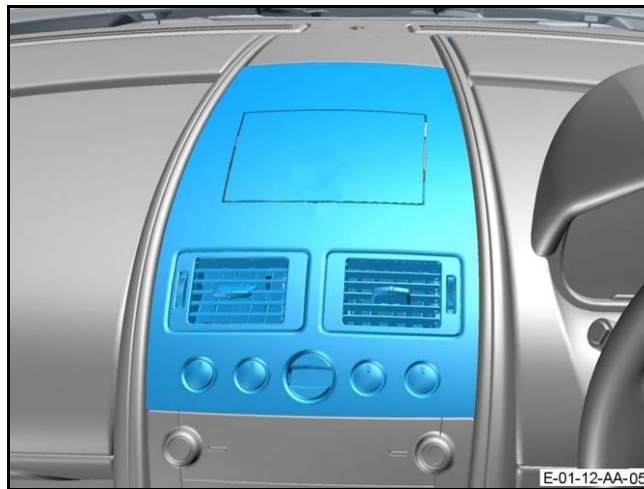

Figure 4
4. Remove the centre-stack instrument panel (panel) (refer to Figure 4).